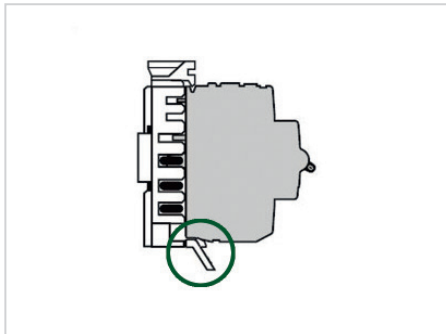

Fig.16: Plug-in position
– The position shall be in the upper position as in Fig.16